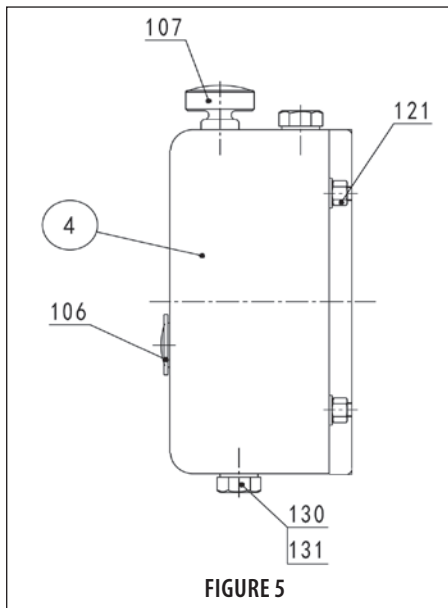

FIGURE 5
See Figure 5. Remove drain screw plug (130) and gasket (131), open air filter (107) and drain lubricating oil from gear box (04).